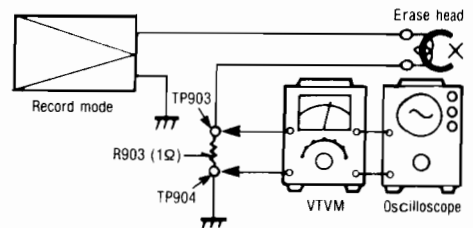

Fig. 10
⑥ **Erase current**
1. Test equipment connection is shown in fig. 10.